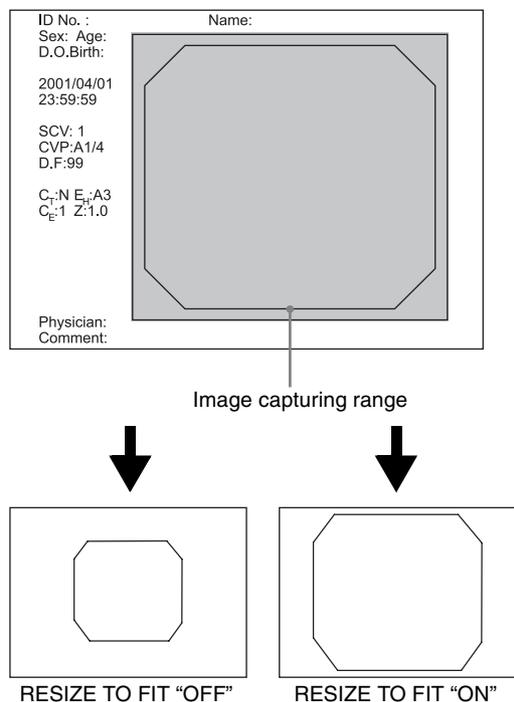

Figure 5.20
After setting the image capturing range, “RESIZE TO FIT” can be used to resize the captured image according to the maximum print area (see Figure 5.20).
- 5 Press “▲” or “▼” to select either “OFF” or “ON,” and press the “ENTER” button (see Figure 5.20).